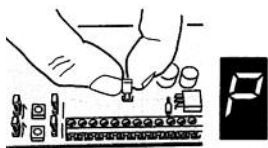

Figure 4
1. Remove the program jumper. The channel shows P. See Figure 4.